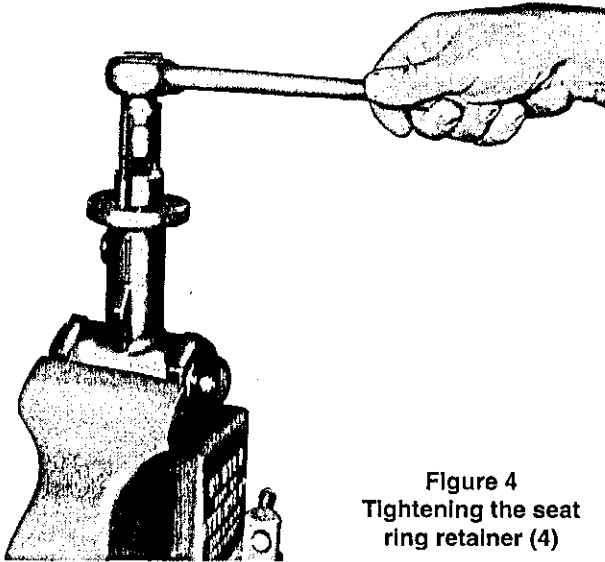

Figure 4
- Carefully apply Never Seez grease (or equivalent) to threads and bottom of retainer (4). With a 9/16" or 14 mm piece of hex stock and a wrench, torque the retainer to 59 ft-lbs (8 daN.m) if a graphite gasket st. st. reinforced, or to 40 ft-lbs (5,5 daN.m) if a glass filled PTFE gasket, (See Figure 4).